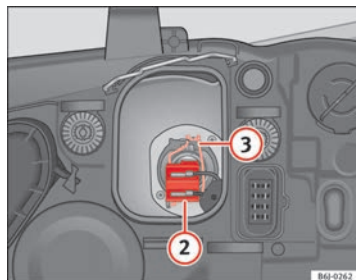

Fig. 162 Dipped beam headlights
- Remove connector ⇒ Fig. 162 ② from the bulb.
- Unclip the retainer spring ⇒ Fig. 162 ③ pressing inwards to the right.